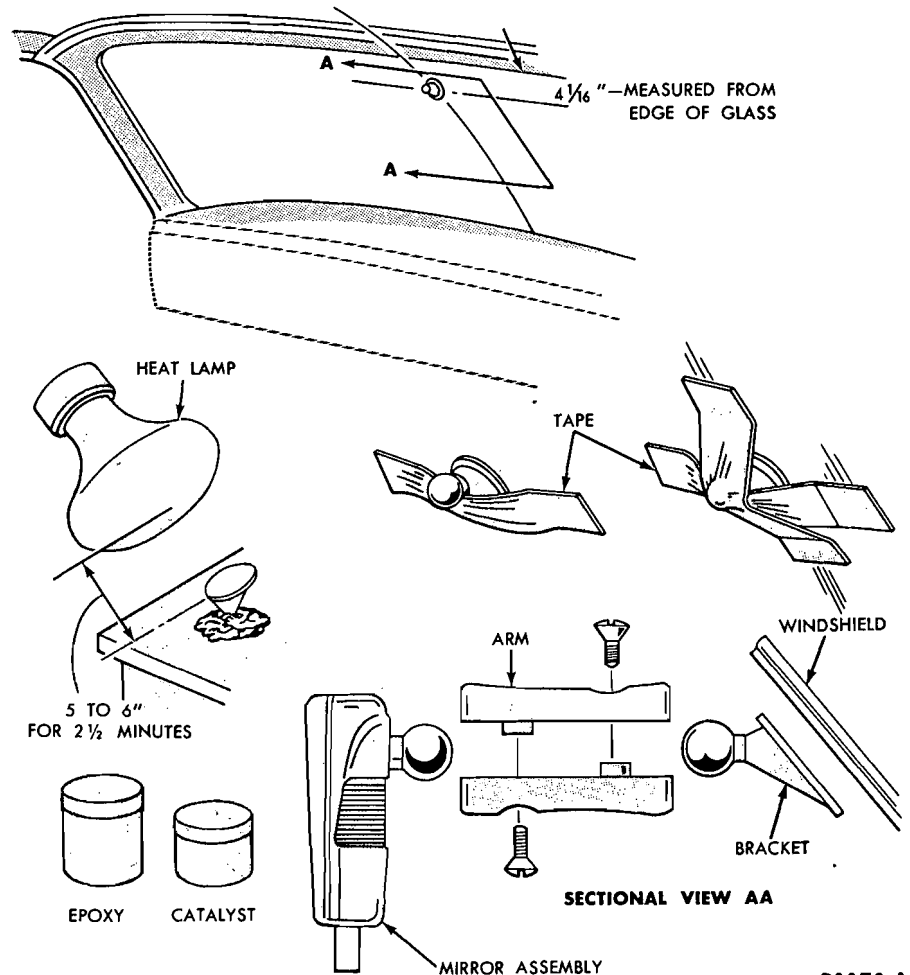

FIG. 32—Bonded Rear View Mirror Installation
1. Locate and mark with a wax pencil the bracket location on the outside surface of the windshield (Fig. 32).
3. To mix the resin pour the entire contents of the small catalyst bottle into the large epoxy bottle (Fig. 32).
6. Place the mounting bracket surface upward in a vise or in a small mound of permagum or any suitable holding material that will support the mounting bracket (Fig. 32). Hold a standard 250 watt infrared lamp about 5 to 6 inches from the mounting surface of the bracket for 2 1/2 minutes.